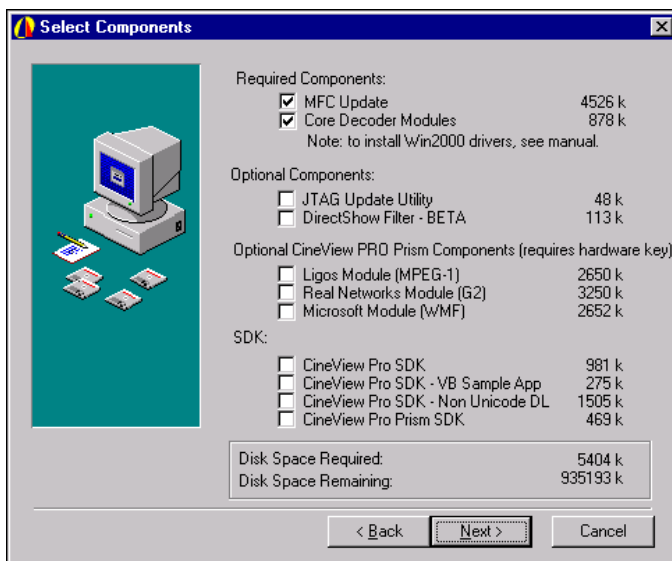

Figure 1-14. Select Components Screen
4. On the “Select Components” screen (Figure 1-14):